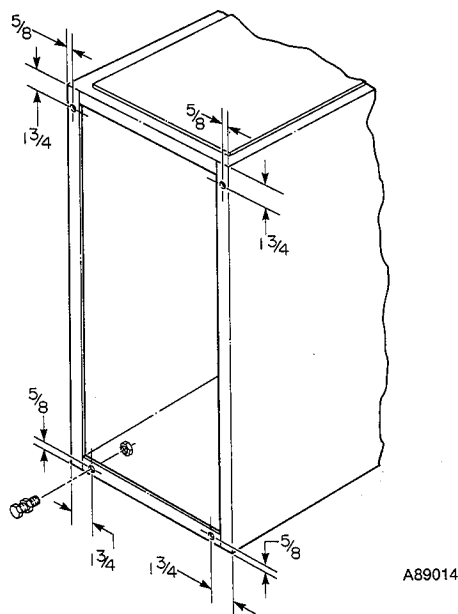

Figure 6—Leveling Leg Installation
When the furnace is used with side inlet(s), and leveling legs are required, refer to Figure 6, and install field-supplied corrosion-resistant 5/16-inch machine bolts and nuts.
1. Lay furnace on its back, locate and drill 5/16-inch diameter hole in each bottom corner of furnace as shown in Figure 6.